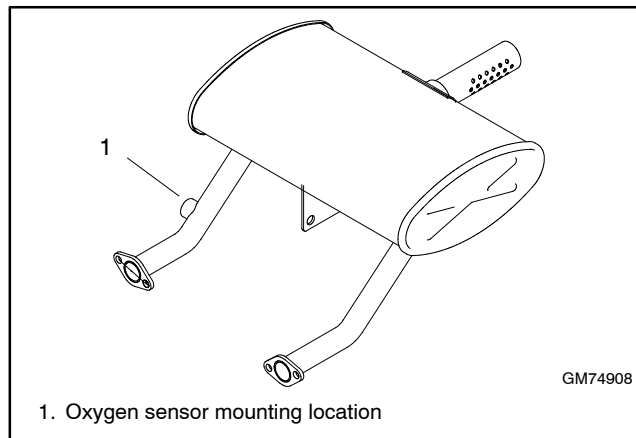

Figure 5-34 Oxygen Sensor Mounting Location on the 14RES/RESL
4. Remove the oxygen sensor plug from the exhaust manifold and install the oxygen sensor. See Figure 5-34 for location.